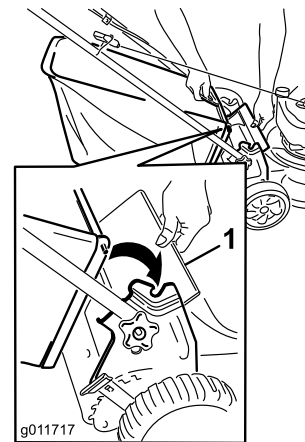

Figure 21
1. Lift up the rear deflector (Figure 21).
2. Insert the grass bag handle onto the notches on the handle brackets (Figure 21).